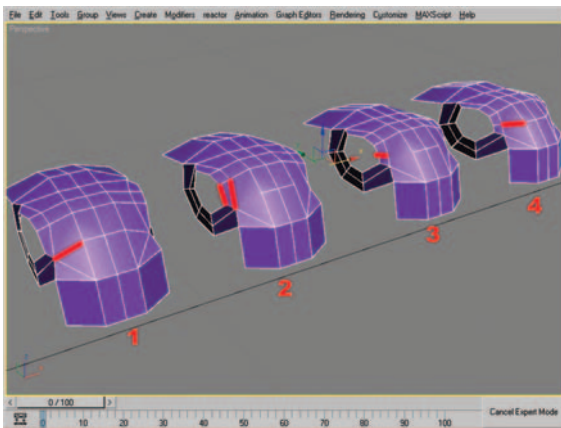

Figure 9.14 Step-by-step breakdown of step 14. Mesh progresses from left to right.
As a result of the last step we have a new diagonal edge, but we also produced two Tris and a five-sided pole vertex in an area where we do not want to have them. We are going to change this! This series of steps may not make sense when you look at the steps one by one, but in the end they will create an all-Quad mesh with dynamic edge flow. The following steps are all shown in Figure 9.14.
14. First select the edge shown in Figure 9.14 (mesh 1). Use the Backspace key to remove the edge. Select the edges shown in mesh 2. Use Connect to create a new edge along the eye border (mesh 3). Use Connect to create the new edge seen in mesh 4 to complete the process.